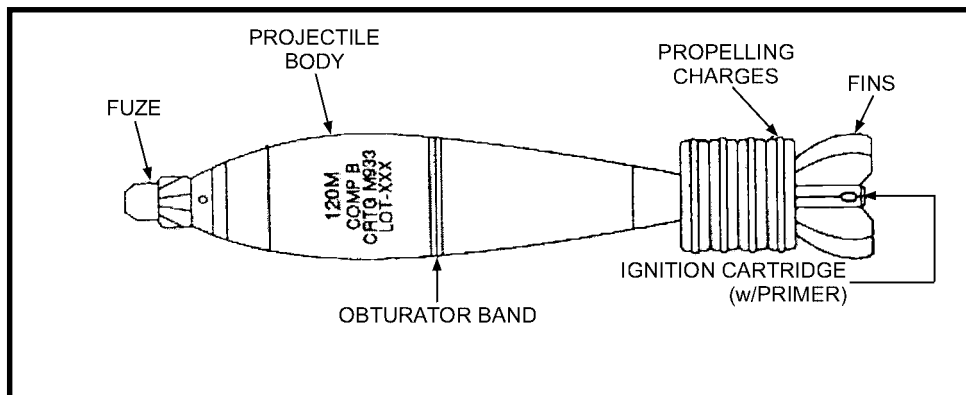

Figure 7-12. M933 HE cartridge.
d. **M933 HE Cartridge** (Figure 7-12).
- (1) Type and use: High explosive fragmentation and blast.
- (2) Identification: Olive drab with yellow markings.
- (3) Components: M745 PD fuze; M230 propelling charge.
- (4) Maximum range: 7,200 meters at charge 4.
- (5) Minimum range: 200 meters at charge 0.